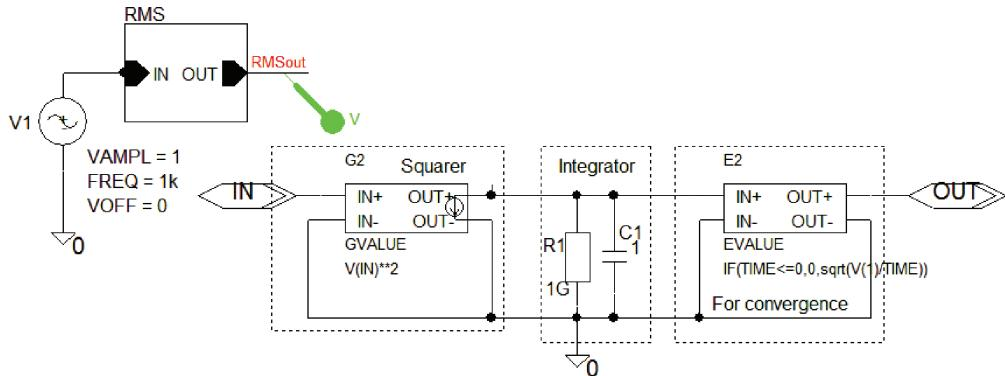
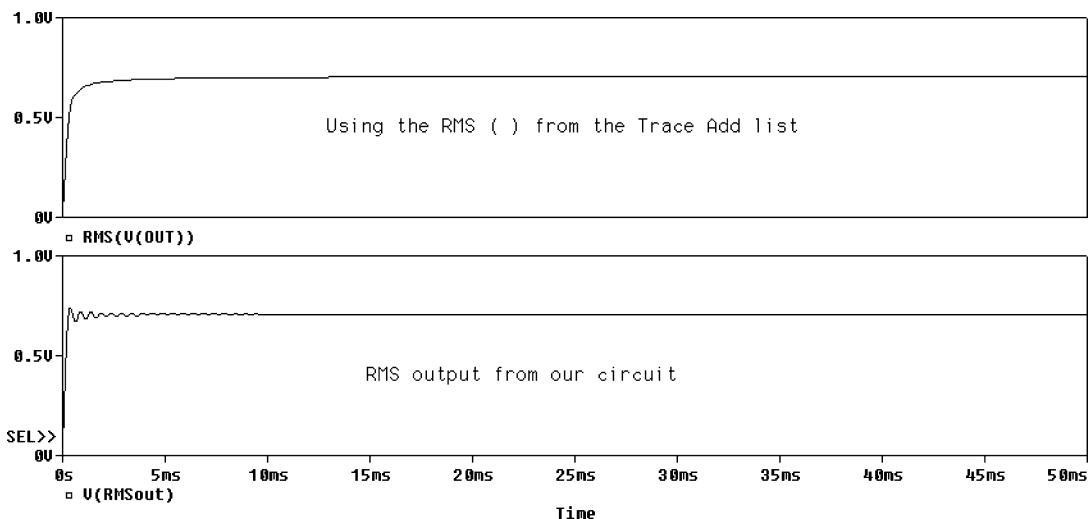

FIGURE 4.30: RMS meter in block form
FIGURE 4.31: Comparison of Probe function RMS () to the RMS meter
- (3) The true RMS meter in Fig. 4.30 is constructed from **ABM** parts (**GVALUE** and **EVALUATE**). Apply a 1 kHz, 1 V sinusoidal signal using a **VSIN** part. To square the input voltage, enter **EXP = V(in)*V(in)**, or **(V(in)**2)** into the **GVALUE** part. The integrator is followed by an **EVALUATE** part using the **IF then ELSE** statement as: **IF (TIME<=0, 0, sqrt(V(1)/TIME))**. This avoids convergence problems, but also gets the square root of the voltage on the wire labeled 1. Run a transient analysis for 50 ms. Fig. 4.31 compares the RMS output to the probe function **RMS (V(RMSout))**. Both eventually settle down to the same output voltage of 0.707 V.
- (4) Repeat the previous exercise for a pulse waveform. The power of a pulse waveform is